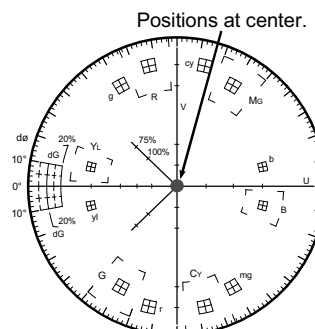

Fig. 4-26
- Adjust data with the **ARROW** keys so that the vector positions at the center of the Vectorscope as shown in Fig. 4-26.